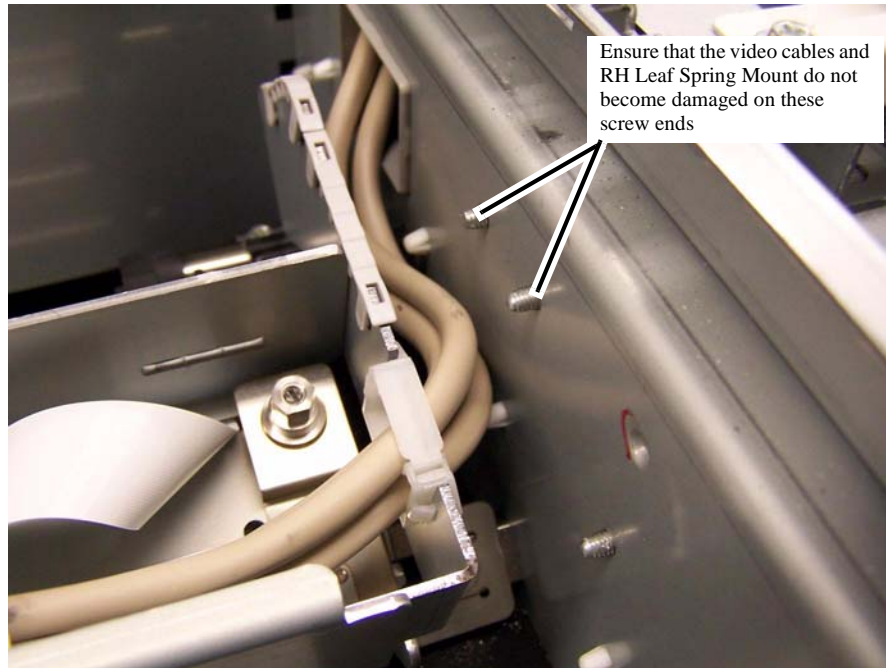

Figure 2 Screws that the video cables and Right Hand Leaf Spring Mount may catch on
- b. Lift the front of the LPH Assembly, ensuring that the video cables and Right Hand Leaf Spring Mount do not catch on the screw ends (Figure 2).